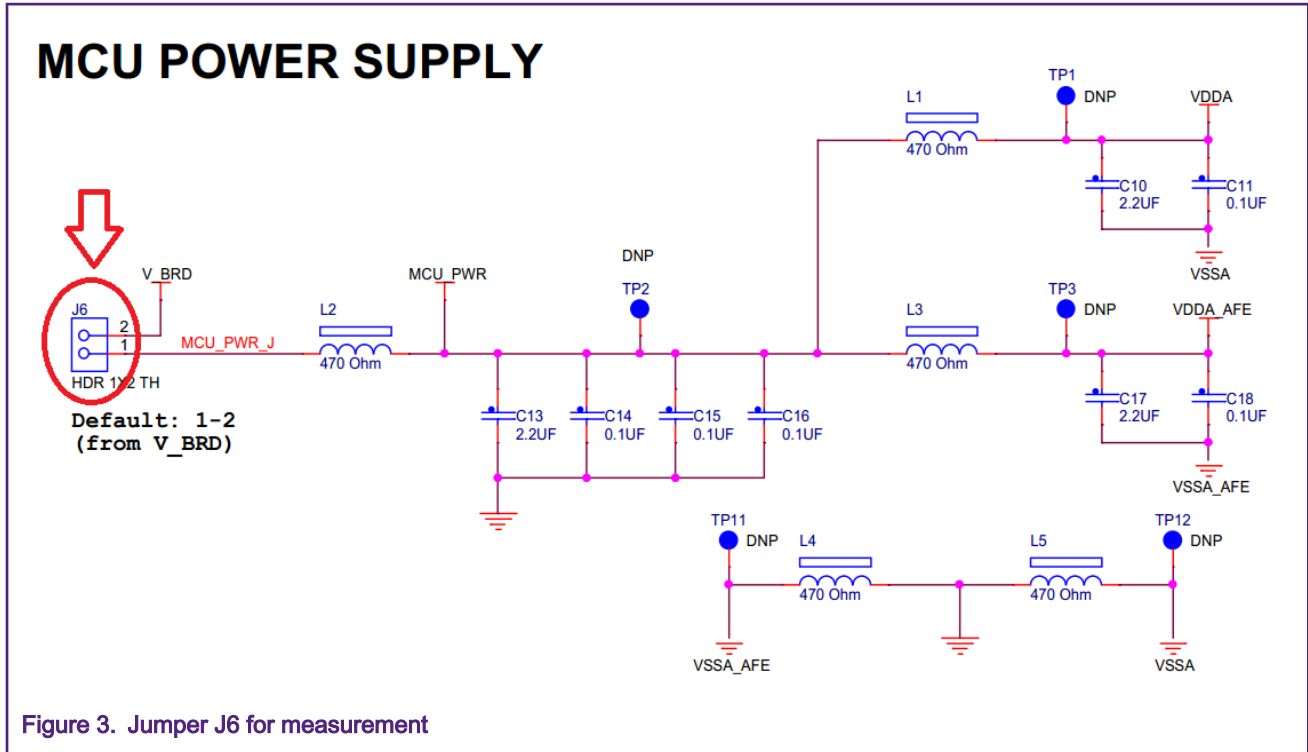

Figure 3. Jumper J6 for measurement
- The measure socket is J6, including the VDD, VDDA, and VDDA_AFE for MCU. VBAT is excluded since the RTC is not used in this demo. See Figure 3.